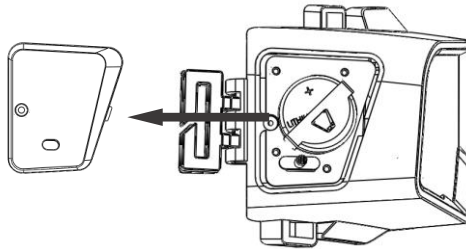

Fig. 1
– Open the battery cover as shown below (Fig. 1).